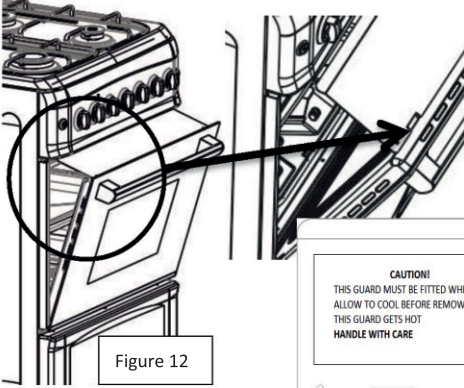
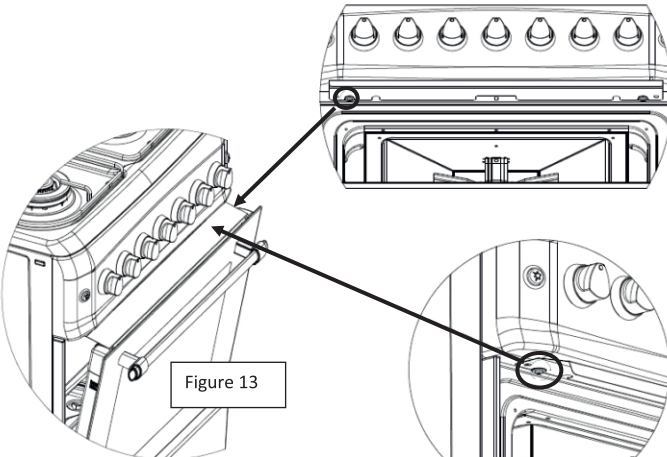

Figure 12
Figure 13
- 5- Place the grill deflector under the control panel by opening the oven door and locating the panel over the lugs as per the diagram below. The panel must be fitted with the symbol facing upwards. Then secure the grill deflector by gently closing the door. (Figure 12 or Figure 13)
Use the grill deflector suitable for your product. (Figure 12 or Figure 13)